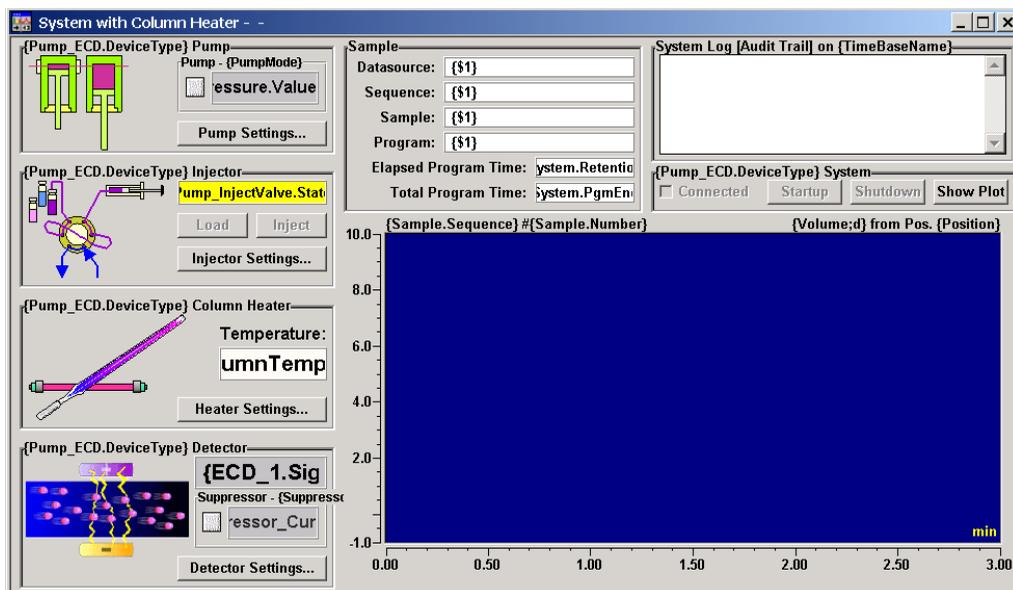

Figure 3-5. ICS-1500 System Control Panel (Unconnected)
- The Control panel opens, unconnected (see Figure 3-5). To connect to the timebase, open the **Control** menu and click the name of the ICS-1500 timebase in the list at the bottom of the menu.